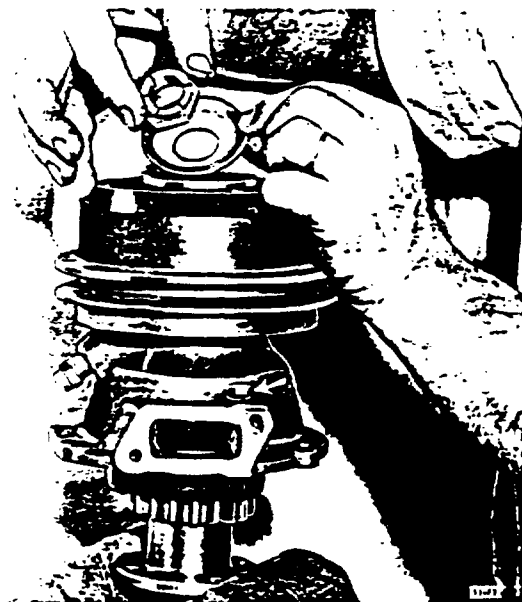

Figure 2-111. Installing Hub Retaining
11. Place housing assembly on a suitable adaptor in vise and install hub retaining washer and locknut. See Figure 2-111.